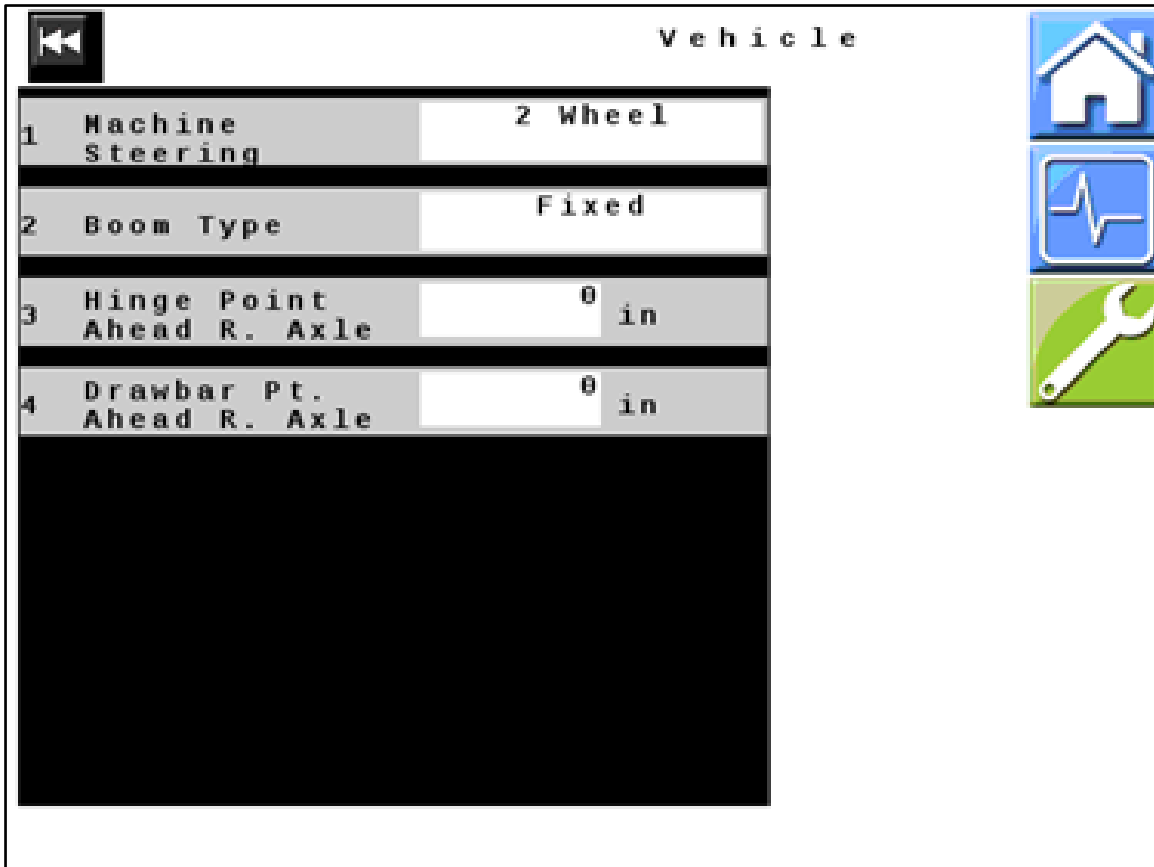

Figure 19 — Vehicle
32. *Figure 19:* Verify that all values displayed on your unit match those shown here. Change values if necessary.